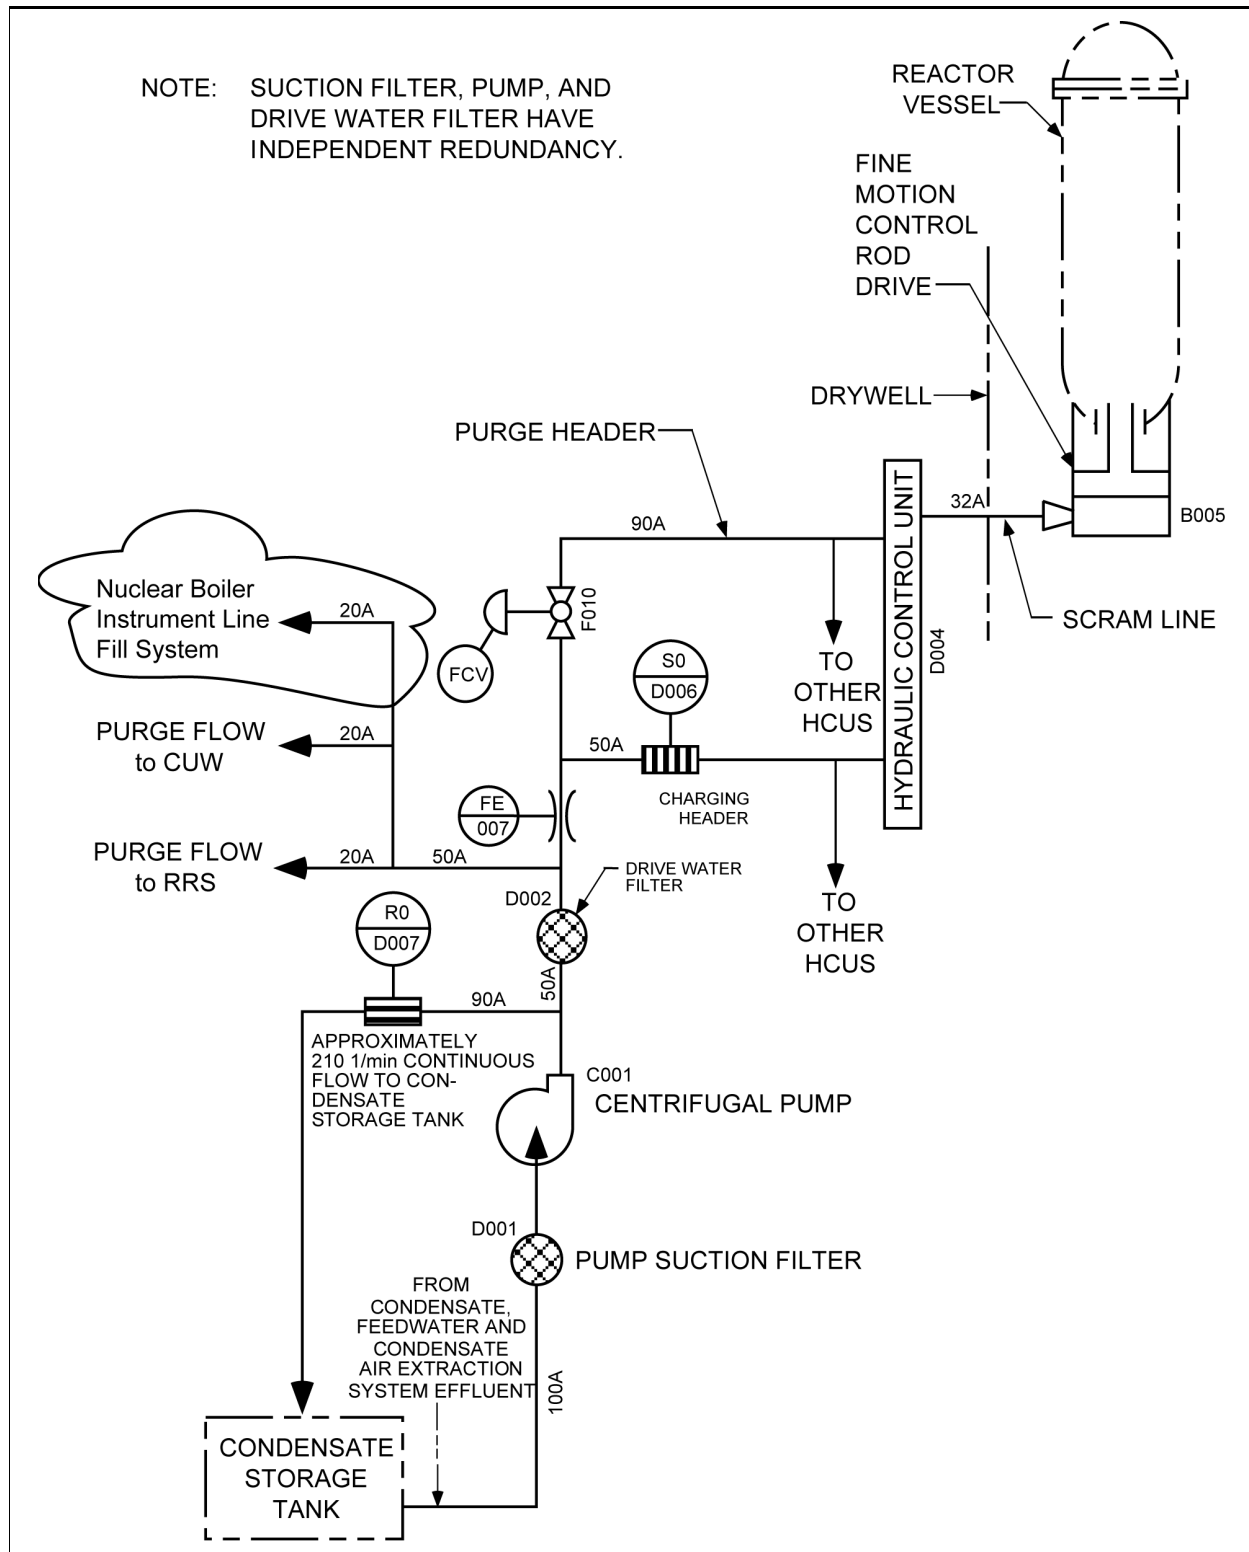

Figure 15B-1 Simplified CRD System Process Flow Diagram
STD DEP 7.7-1 (Figure 15B-1)
*A simplified CRD System process flow diagram is shown in Figure 15B-1. CRD System water is taken from the condensate, feedwater and condensate air extraction system, or Condensate Storage Tank (CST) through a suction filter by a centrifugal pump and discharged through a drive water filter to the HCU. (During shutdown the CST is the primary source.) Each of these components is independently redundant and only one of each is in operation at any one time. A portion of the pump discharge flow is diverted through a minimum flow bypass line to the CST. The pumped water is directed to the HCU to provide hydraulic scram and to furnish purging to the drive. This system also provides purge water for the reactor internal pumps, nuclear boiler instrument lines, and the reactor water cleanup pumps.*